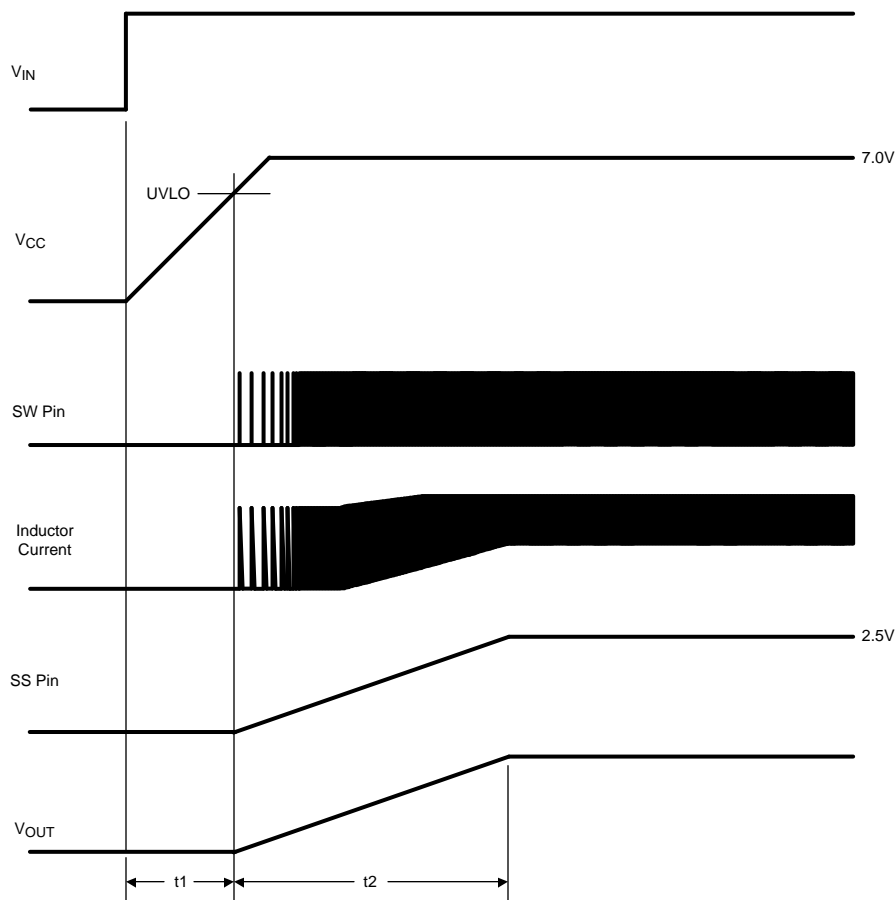

Figure 8. Startup Sequence
The softstart feature allows the converter to gradually reach a steady state operating point, thereby reducing start-up stresses and current surges. Upon turn-on, after  $V_{CC}$  reaches the under-voltage threshold, an internal 12.5  $\mu A$  current source charges up the external capacitor at the SS pin to 2.5V ( $t_2$  in Figure 8). The ramping voltage at SS (and the non-inverting input of the regulation comparator) ramps up the output voltage in a controlled manner.
**C3:** The capacitor at the  $V_{CC}$  output provides not only noise filtering and stability, but also prevents false triggering of the  $V_{CC}$  UVLO at the buck switch on/off transitions. C3 should be no smaller than 0.1  $\mu F$ , and should be a good quality, low ESR, ceramic capacitor. C3's value, and the  $V_{CC}$  current limit, determine a portion of the turn-on-time ( $t1$  in Figure 8).
**C6:** The capacitor at the SS pin determines the softstart time, i.e. the time for the output voltage, to reach its final value ( $t2$  in Figure 8). The capacitor value is determined from the following: